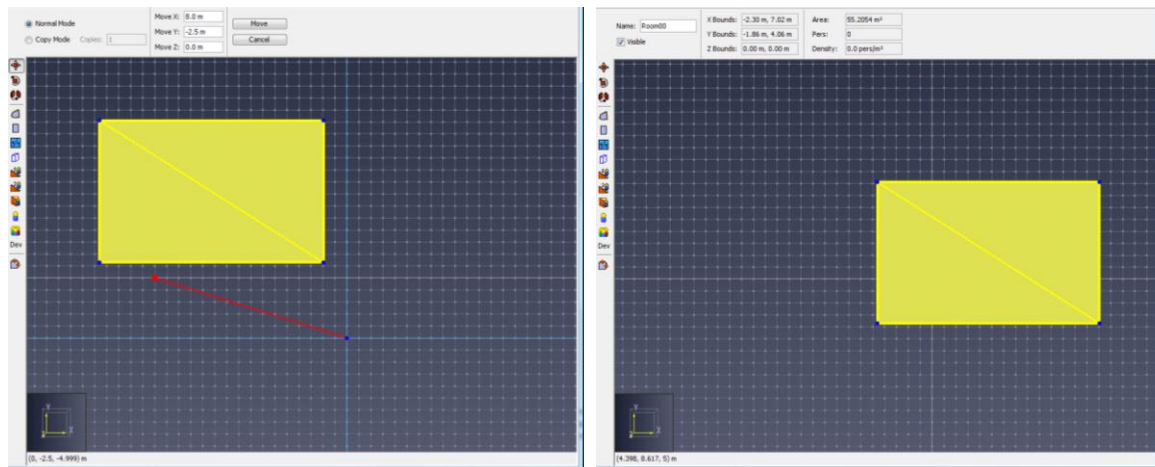

Figure 61: Graphically moving an object
- **Graphically:** This is performed most easily in one of the 2D views. To translate graphically click two points on the model. The vector from the first point to the second defines the movement offset. When moving graphically, objects will only be moved parallel to the camera's view plane. The steps for translating graphically are shown in Figure 61.